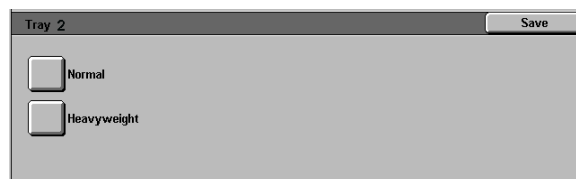

Figure 8: Sample Tray detail screen
- 3** Review the current settings for each tray. Use the up and down arrows to highlight the desired paper tray and touch the **Change Settings** button to display the detail screen for the tray. A sample detail screen for Trays 2, 3, and 4 is illustrated in Figure 8.